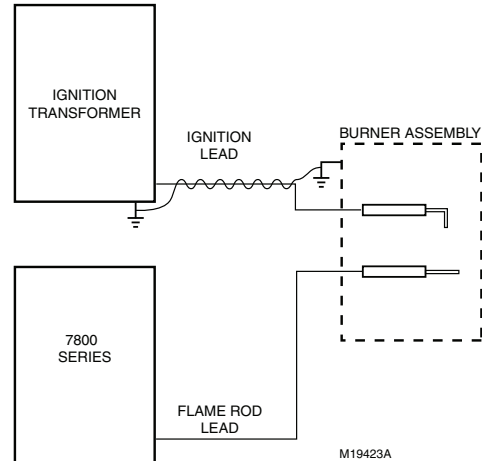

Fig. 2. Grounding the Q652B to the burner assembly.
3. Wrap the wire around the igniter (high tension) lead as shown in Fig. 2. Four or five wraps are sufficient.
Referring to Fig. 2, it can be seen that the Q652 essentially comprises an RFI filter circuit, a solid state oscillator circuit and a high voltage transformer. The solid state oscillator is comprised of a transistor controlling an LC resonant circuit. The capacitor in the LC circuit charges and discharges and the voltage developed across the inductor is stepped up by the high voltage transformer.
- d. Try wrapping the ground lead around the igniter wire as shown in Fig. 2, if not already done.